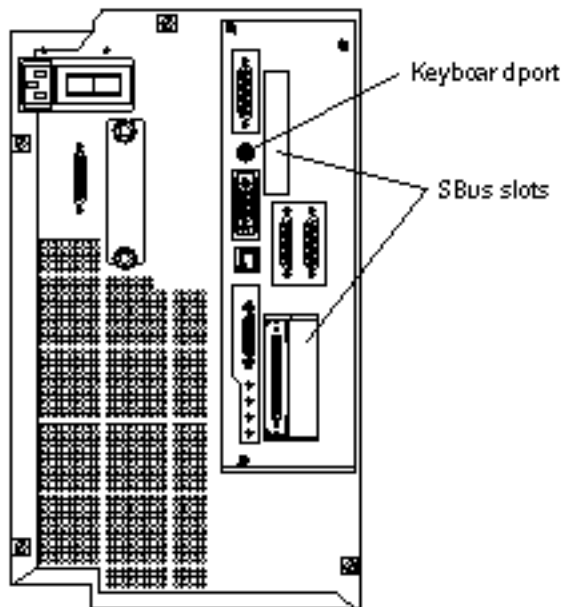

Figure 1-5 Connecting a Monitor and Keyboard to the Netra 150 Server
1. **Verify that a frame buffer has been installed in one of the available SBus slots in the Netra 150 server (Figure 1-5).**
3. **Connect the keyboard to the keyboard port at the rear of the Netra 150 server (Figure 1-5).**